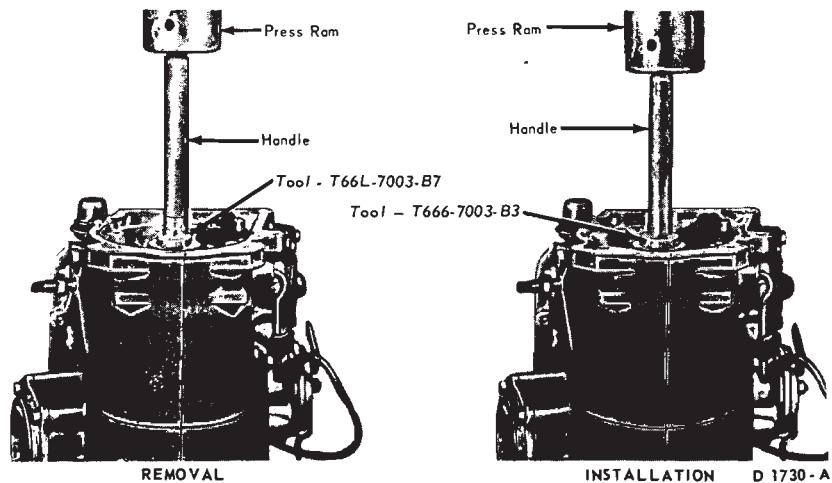

FIG. 56—Replacing Transmission Case Bushing
1. Remove the transmission case bushing as shown in Fig. 56.
2. Install the transmission case bushing with the tool shown in Fig. 56.